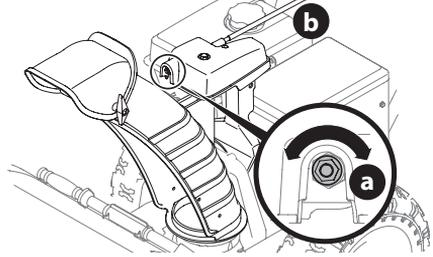

Figure 51
1. To increase preload, tighten hex nut (a) clockwise in ¼ turn intervals. The chute control rod (b) will need to be held stationary when tightening the nut (Figure 51).